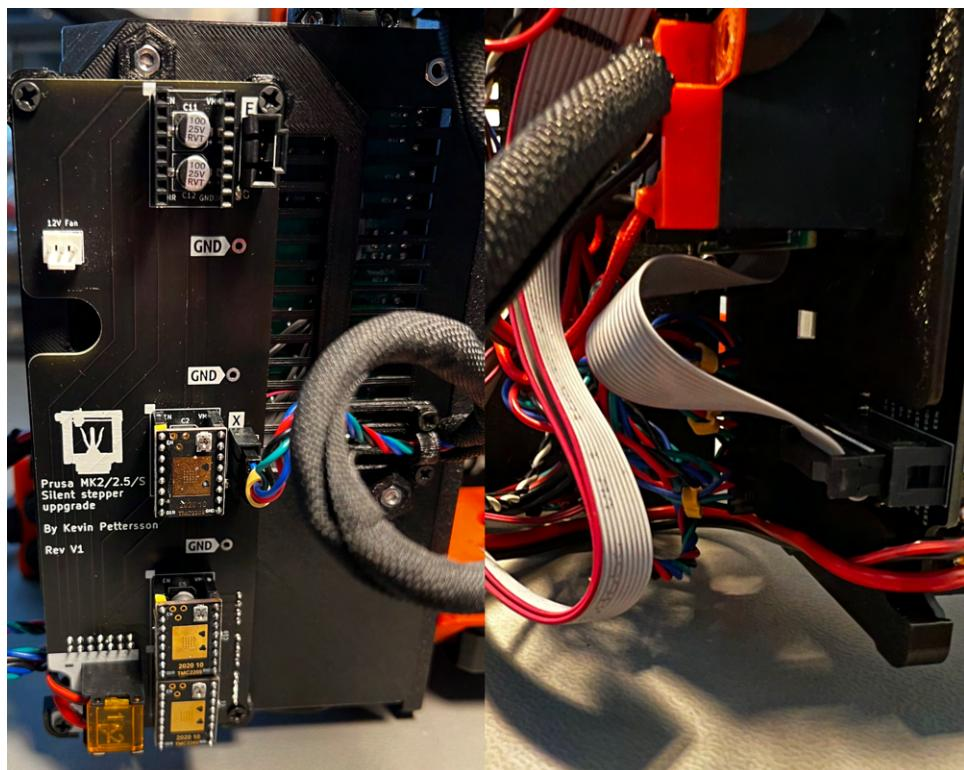

Figure 14: View of front and back of **XYZE** upgrade board for X, Y and Z installation, NOTE depicted image is of V1, V1.1 looks slightly different.
(unless you are installing the Protection Addon), X-axis strain relief and stepper drivers. I suggest installing the drivers without heat-sink as it will be easier to adjust the Vref later. The result at this stage should look like Figure 14.
5. Lastly, add the cable to the cable sleeve and connect it to the LED port located next to the X-axis motor connector, as depicted in Figure 14. Please note that you should use the larger strain relief holder on the upgrade board and double check that the red wire is towards the + sign on the board.